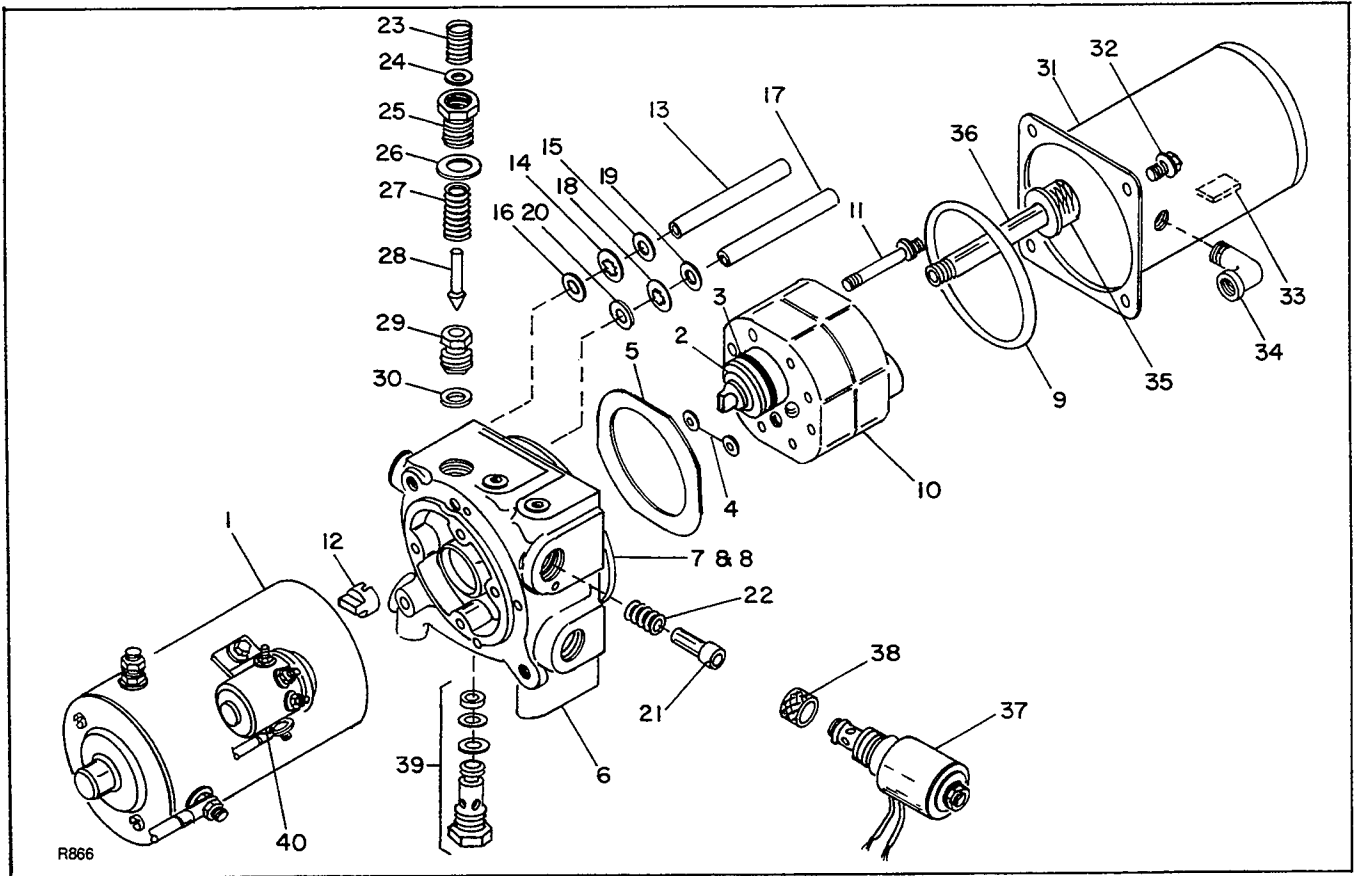

Figure 3-26. Pump-Motor-Reservoir Assembly
a. Hydraulic Pump-Motor-Reservoir Assembly. (Figure 3-26)
6. Disassemble using figure 3-26 as a guide.